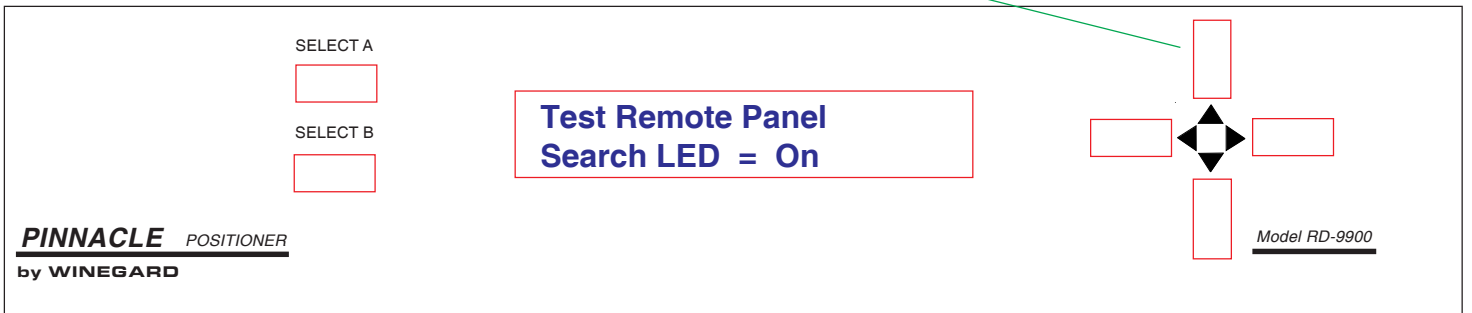

Figure 15
8. Press **[UP] arrow button** twice. Search LED will light on remote panel when **Search LED = On** is displayed on positioner. See Figure 15.